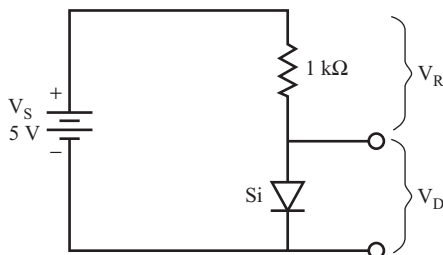

FIGURE 2.17
**12** Calculate the current through the diode in the circuit shown in Figure 2.17 using the steps in the following questions.